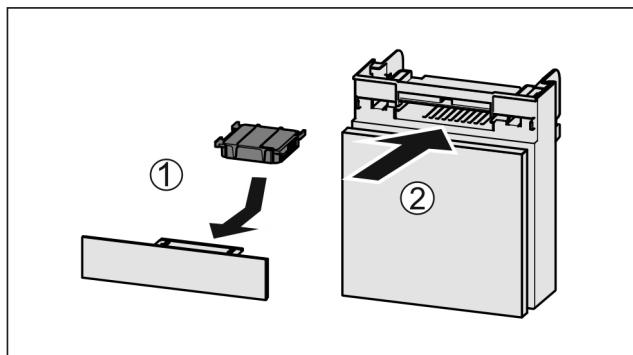

Fig. 129
- Insert the carbon filter as shown in the diagram Fig. 129 (1).
- Push the compartment in Fig. 129 (2).